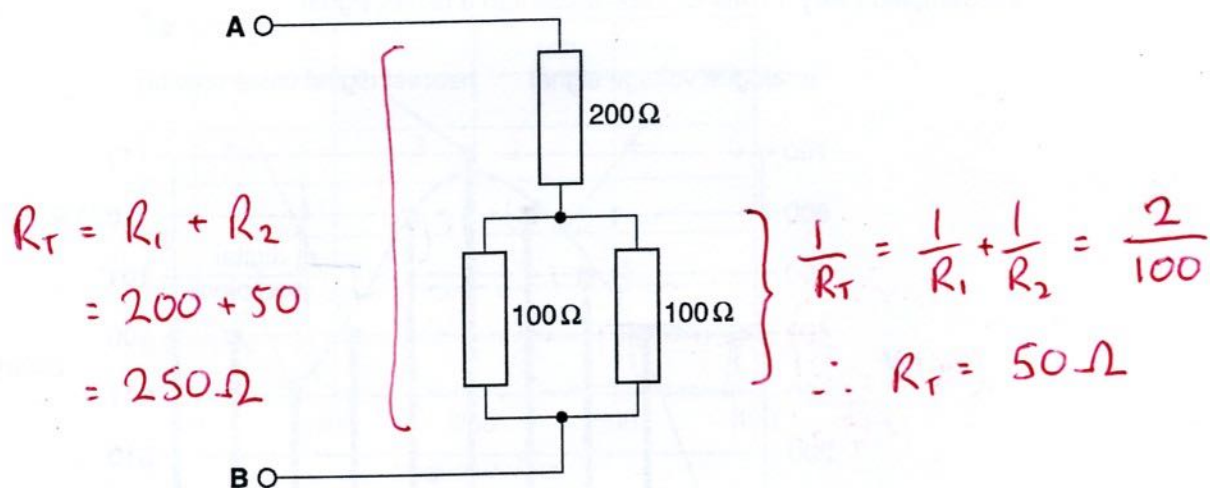

Fig. 6.1
- 6 Three resistors are connected as shown in Fig. 6.1.